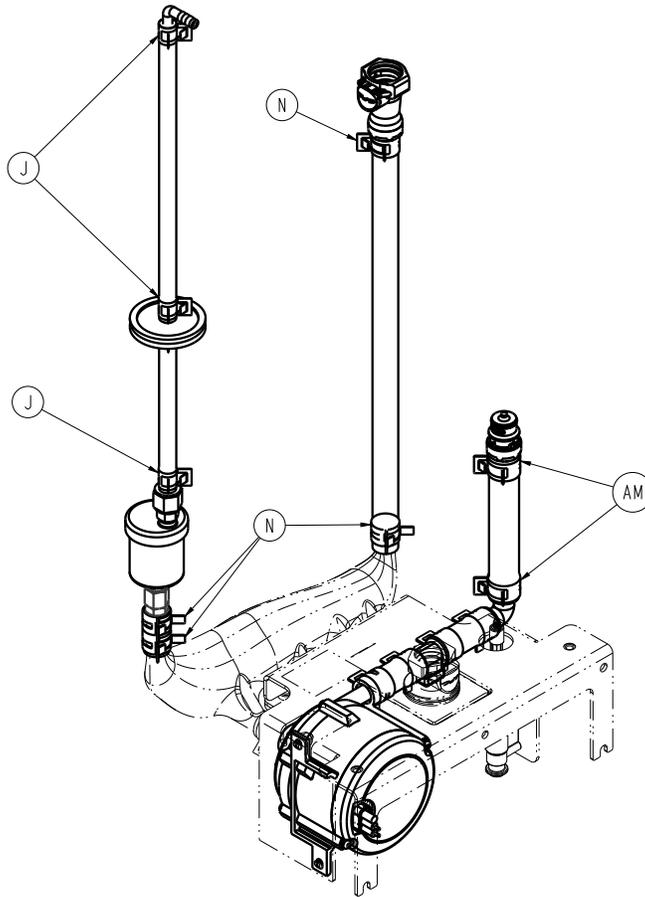

Figure 17 – Fluid assembly bracket
- Using needle nose pliers, remove the two hose clamps (N) that secure the tubing to the reservoir (Figure 17). Save the clamps.